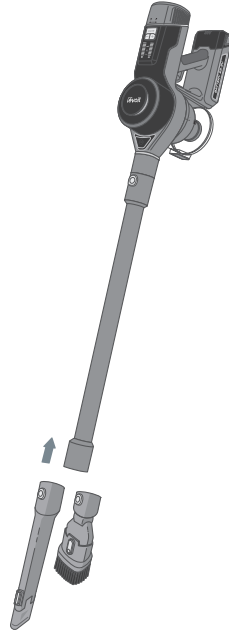

Figure 1.6
3. Optionally, leave the stick attached to the vacuum body and press the Vacuum Head Release Button to remove the vacuum head. Then, attach the nozzle or brush to the end of the stick [Figure 1.6].